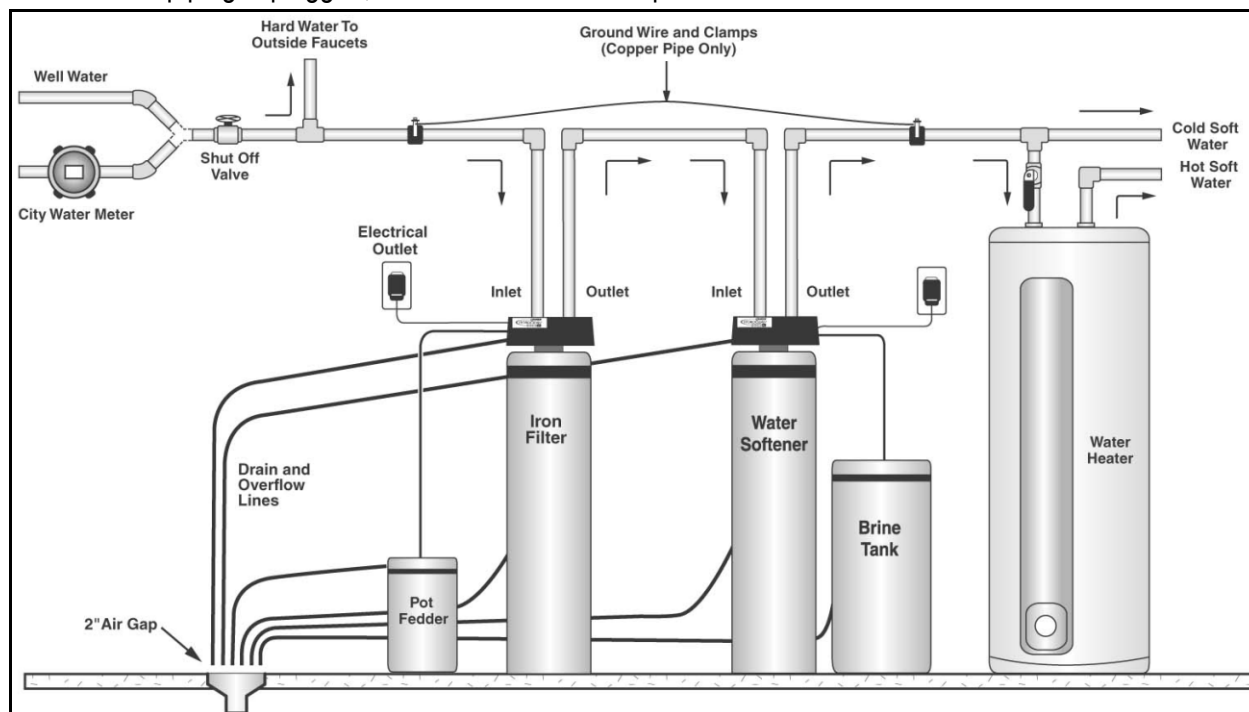

Figure 7: Iron Filter and Potassium Permanganate Feeder Placement
Note: The iron filter should be installed after the pressure tank or water meter and before the water heater or any water softener appliance, unless otherwise recommended. See Figure 7. A minimum 3/4-inch pipe is required for proper function of the filter. Examine the inlet piping to make sure the pipe is not plugged with lime or iron. If the piping is plugged, it must be cleaned or replaced.
- C. See Figure 7 for feeder placement.